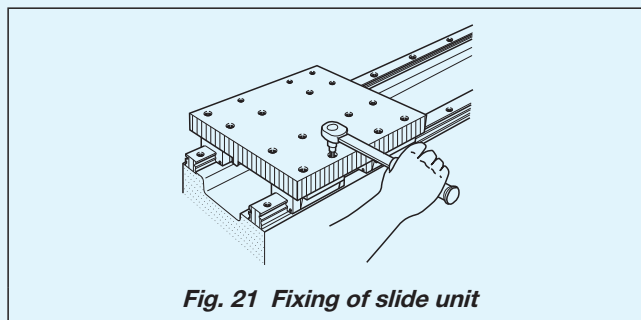

Fig. 21 Fixing of slide unit
- Fix one of the Linear Way II slide units in a motion direction correctly and leave the other slide units temporarily fixed. (See Fig. 21)